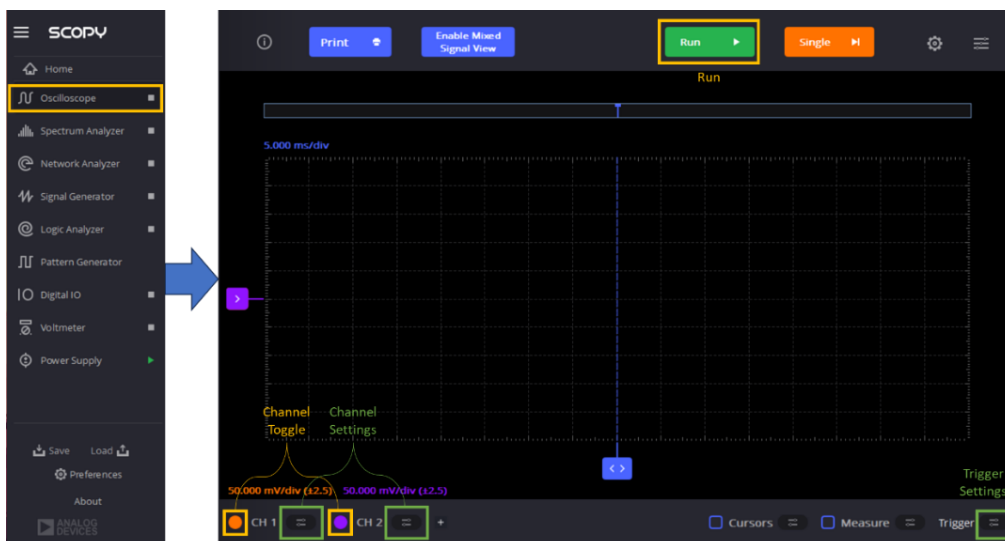

Figure 9. Oscilloscope UI of Scopy
- Go to the oscilloscope tab. Figure 9 below shows the UI and its functions.